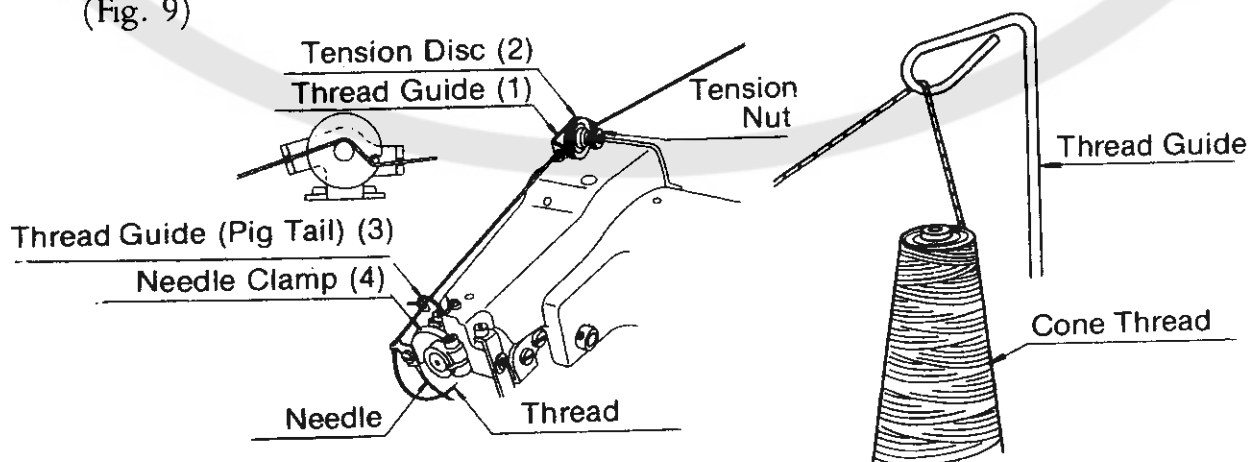

Fig. 9
5. Threading Machine (Figs. 9—12)
- A. When using sewing thread from a cone, place it over plastic cup on thread stand (Fig. 9)
C. For correct threading of machine, follow carefully course of thread as shown on Fig. 9.
When reaching to thread tension device, enter thread first in rear eye of thread guide (1). Then, lead thread between the two tension discs (2) as per Fig. 9. Now enter it from behind through the front eye of thread guide. Lead thread forward to front of machine. Enter thread from above into thread guide (3), and eyelet of needle clamp (4).